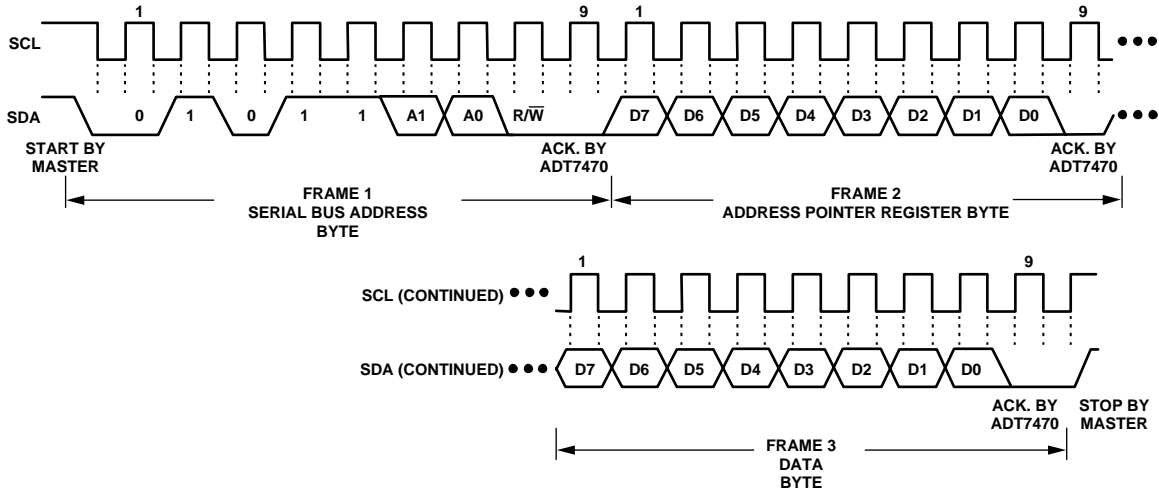
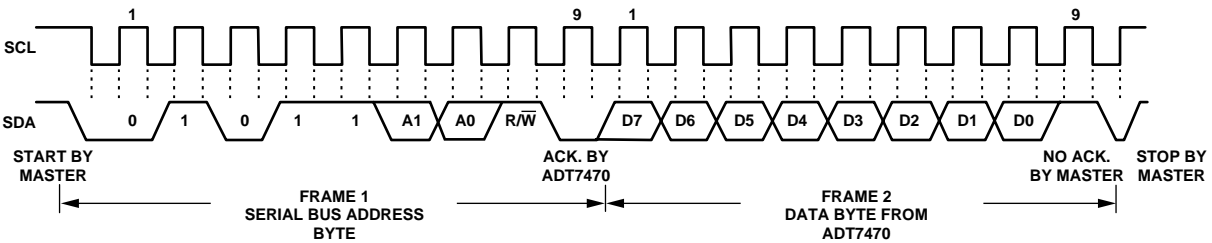

Figure 7. Writing a Register Address to the Address Pointer Register, Then Writing Data to the Selected Register
Figure 9. Reading Data from a Previously Selected Register
This is illustrated in Figure 7. The device address is sent over the bus followed by R/W set to 0. This is followed by two data bytes.
A read operation is then performed consisting of the serial bus address, R/ \bar{W} bit set to 1, followed by the data byte read from the data register. This is shown in Figure 9.
- In Figure 7 to Figure 9, the serial bus address is shown as the default value 01011(A1)(A0), where A1 and A0 are set by the address select mode function previously defined.